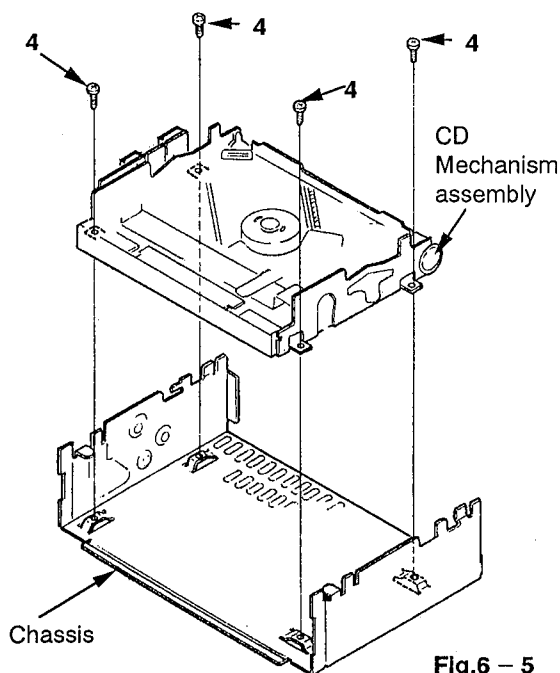

Fig.6 - 5
■ Removal of CD pickup (Fig. 6 - 6 , 6 - 7 , 6 - 8)
3. Place the CD mechanism assembly to expose the bottom side upward, and remove a screw "6" retaining the pickup shaft (A) to remove it together with the shaft holder.
4. Loosen a screw "7" retaining the pickup shaft (A) in the other side.
5. Loosen a screw "8" retaining the pickup shaft (B).